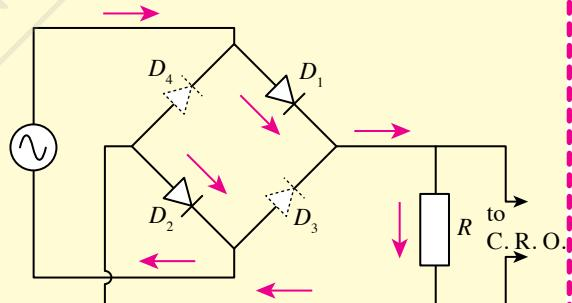
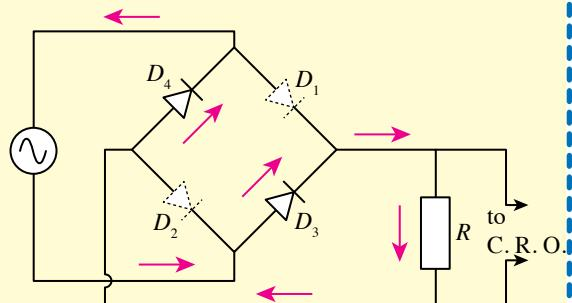

Figure 5.9
Figure 5.10
The arrangement of four diodes as shown in Figure 5.9 and Figure 5.10 is called a **bridge rectifier**. This arrangement allows a complete cycle of current to flow in the same direction through the load, R .
- Therefore, D_1 and D_2 allow current to flow while D_3 and D_4 prevent current from flowing as shown in Figure 5.9
- Therefore, D_3 and D_4 allow current to flow while D_1 and D_2 prevent current from flowing as shown in Figure 5.10